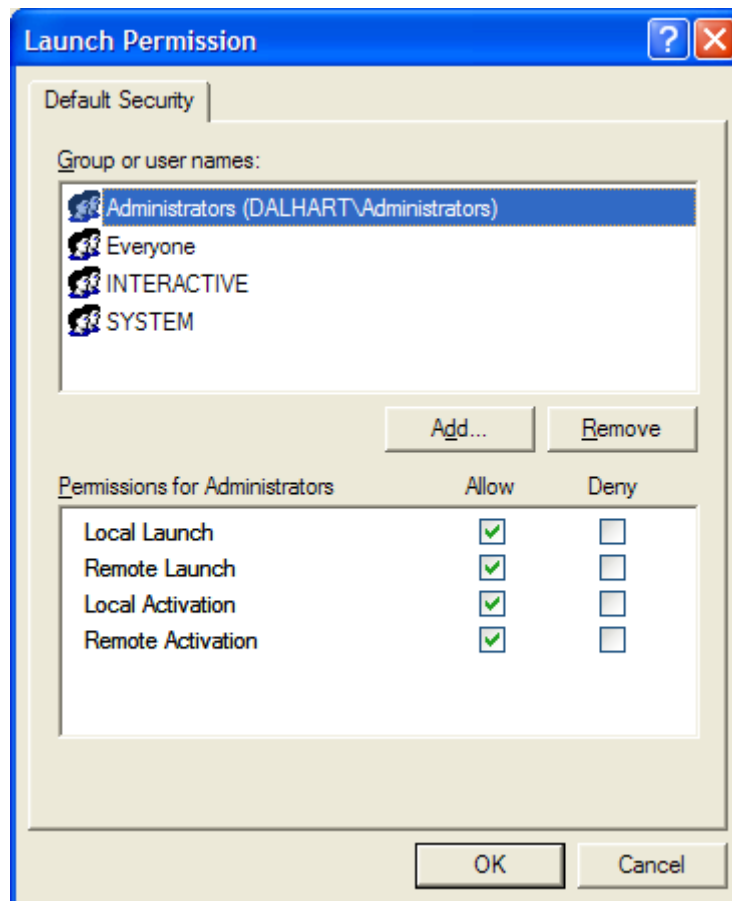

Figure 22 Windows XP Service Pack 2 Default Launch Permissions
Press the **Launch Permissions and Activation Permission - Edit Defaults** button. The Launch Permissions window is displayed (see Figure 22).
- In Windows **XP Service Pack 1**: add the Everyone group with Allow Launch Permissions (see Figure 22).